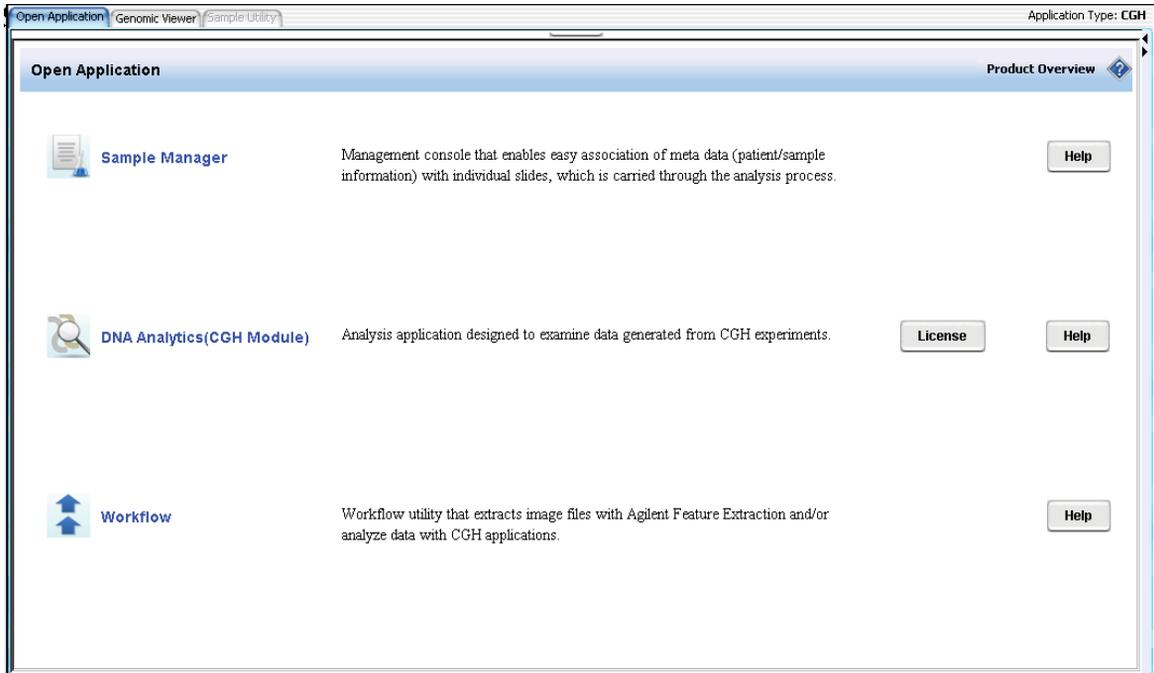

Figure 1 Open Application pane
- 1 To open Workflow, in the Open Application pane click the **Workflow** icon . See Figure 1.